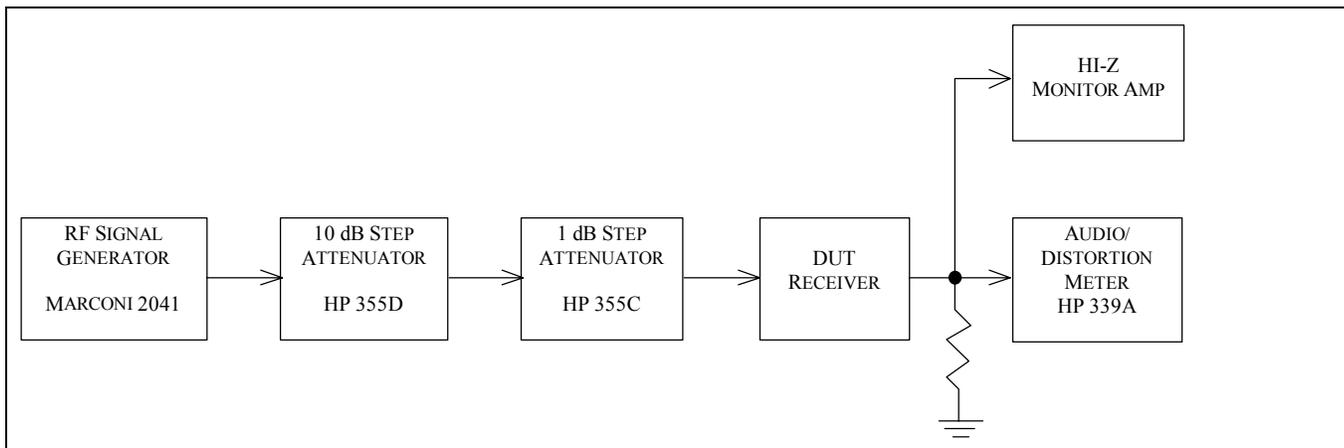

Fig. 5-5 — IF And Image Test Hook-up
5.5.2 Test hook-up (See Fig. 5-5)